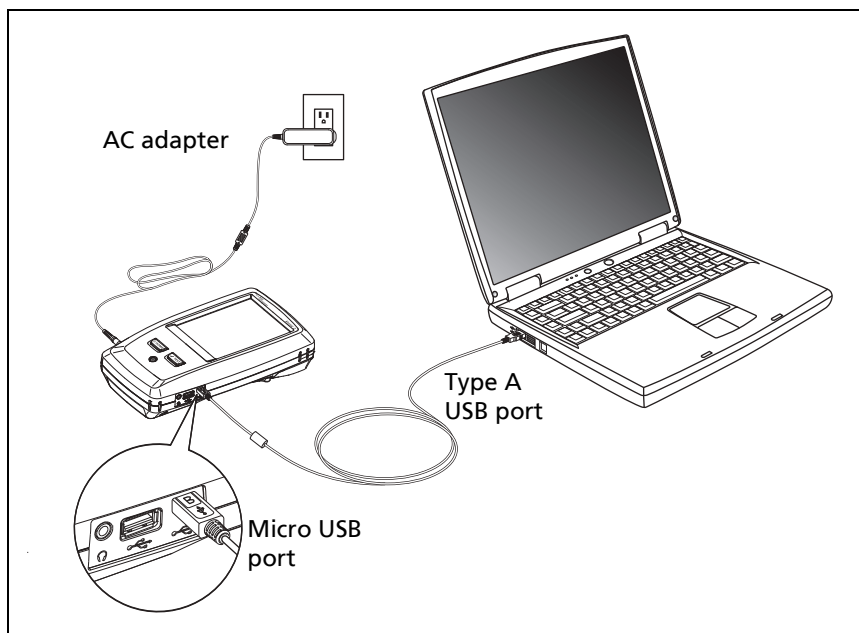

Figure 126. How to Connect the Tester to a PC
- 3 Use the USB cable supplied to connect the Micro USB port on the tester to a type A USB port on the PC. See Figure 126.